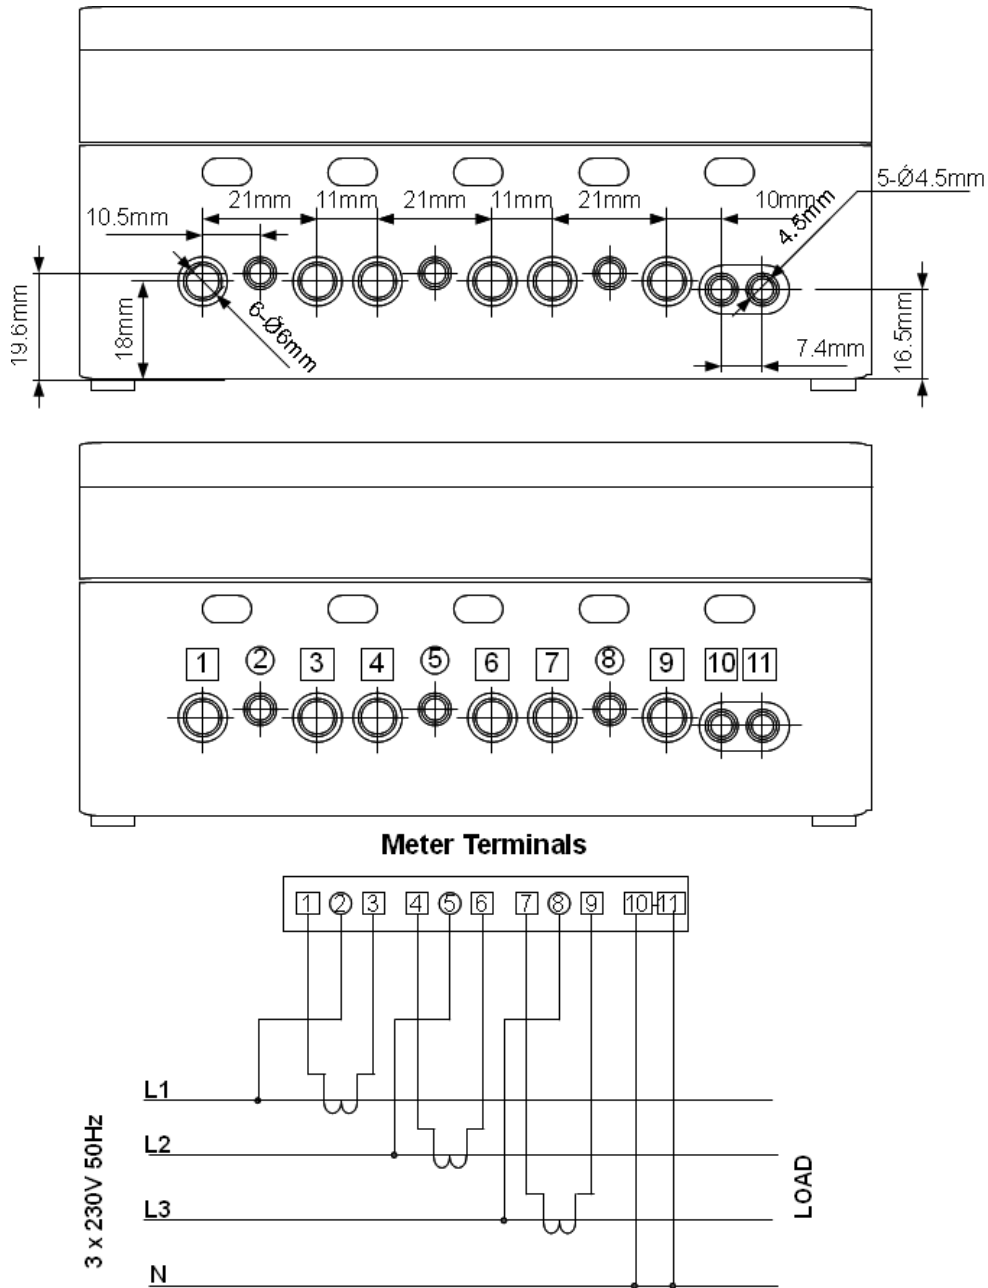

Fig. 4.4. Terminal dimensions and connection diagram
4. Connect the wires according to the diagram on the terminal cover and according to installation diagram in this guide, see *Fig. 4.4* .Tighten the terminal screws firmly.